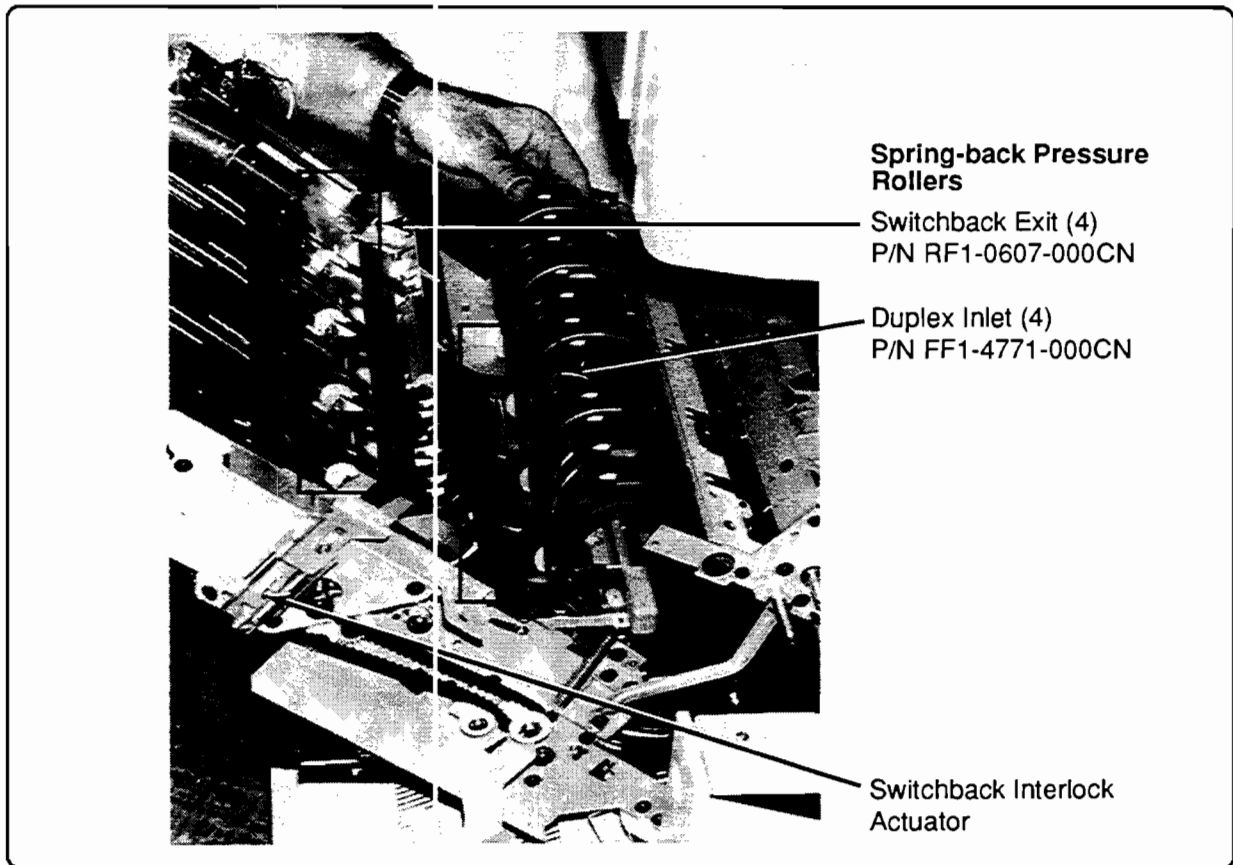

Figure 4-25. Pressure Rollers and Interlock Actuator
10. Open the Switchback Assembly. Check the four Switchback Exit Spring-back Pressure Rollers (white, Figure 4-25) for spring-back and proper seating. Clean or replace, if necessary (P/N RF1-0607-000CN).
11. Inspect the four Duplex Inlet Spring-back Pressure Rollers (Figure 4-25) for spring-back and seating. Clean or replace, if necessary (P/N RF1-0607-000CN).
17. Open and close the switchback assembly again. Check to see that the switchback interlock actuator (Figure 4-25) fits into the slotted guide of the main engine's left front door switch assembly. If it rubs or is not centered in the slot, adjust it so it is centered (loosen screw and move). Manually engage the actuator to make sure it moves freely against its spring tension.